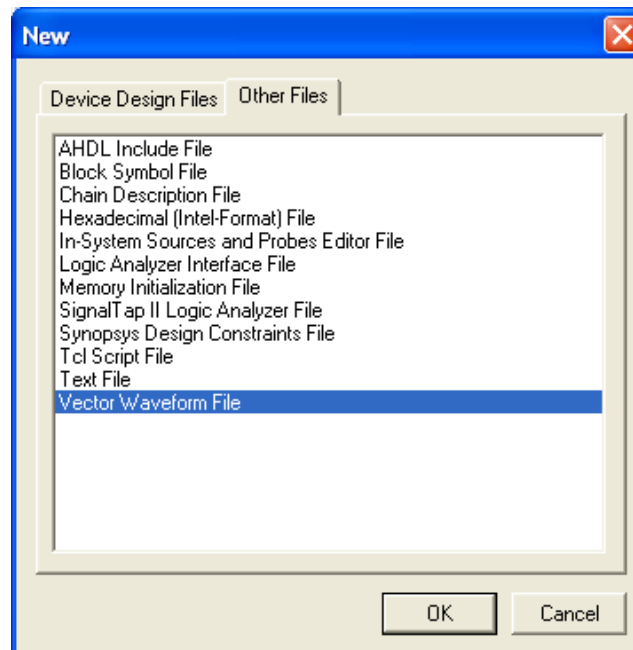

Figure 5. Choose to prepare a test-vector file.
2. Click on the Other Files tab to reach the window displayed in Figure 5. Choose **Vector Waveform File** and click **OK**.